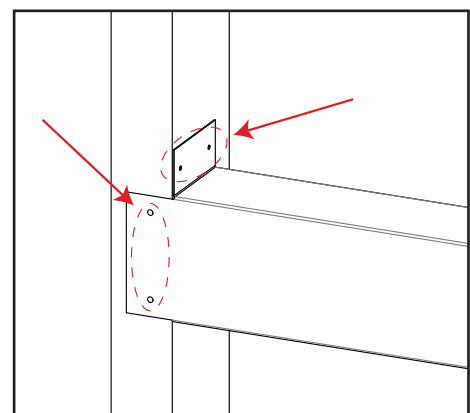

**Figure 30: Steel Stud Placement**
- Place the steel stud onto the top standoffs and slide outwards until both ends make contact with the framing studs (see Figure 30).